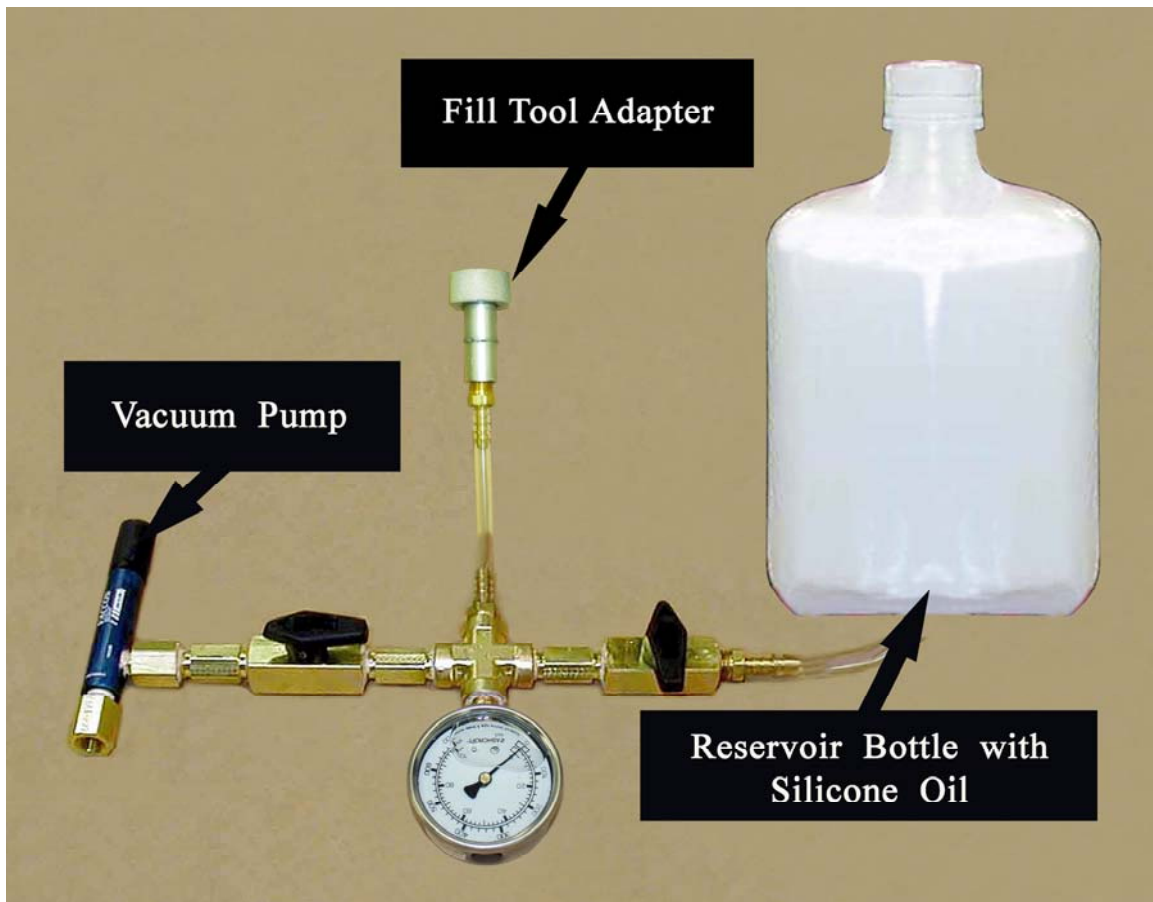

Figure 2
2. Connect the Onyx fill tool adapter to the vacuum-filling manifold. Your complete assembly should look like the picture in figure 2.